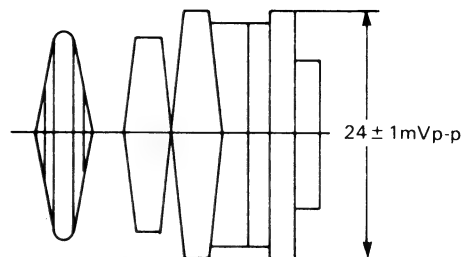

Figure 2-8.
- c) Adjust R518 (recording chroma control) to that the red level be  $24 \pm 1\text{mVp-p}$  as shown in Fig.2-8.